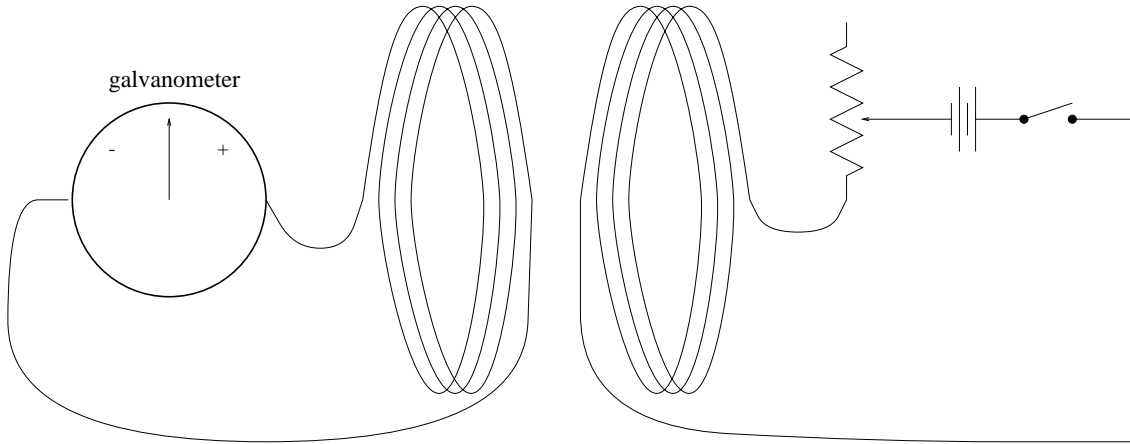

FIGURE 3
4. Connect the second coil to the power supply and rheostat as shown in Figure 3. Adjust the resistance of the rheostat to zero. Record the direction of current flow in the coil and the direction of the magnetic field lines produced by this coil. Roughly sketch this setup. Close the switch and record the magnitude and direction of the needle deflection; open the switch and record the magnitude and direction of the needle deflection. Insert the straight iron core into both coils and repeat. Make two sketches,
5. Set up the circuit as in Figure 3, without the iron core. Close the switch and wait for the needle to return to zero. Move the coils apart quickly and record the deflection. Move the coils together quickly and record the deflection. Sketch both cases, indicating the directions of current flow and magnetic field due to each coil. Is the direction of the induced magnetic fields consistent with Lenz's Law? Does it matter which coil you move (or even if you move both coils simultaneously)?
6. Set up the circuit as in Figure 3, without the iron core. Close the switch and wait for the needle to return to zero. Move the rheostat quickly to the position of maximum resistance; record the deflection. Return the slider to its original position and record the deflection. Sketch both cases, indicating the directions of current flow and magnetic field due to each coil. Is the direction of the induced magnetic field lines consistent with Lenz's Law? Remember that increasing the resistance in a series circuit decreases the current flow.